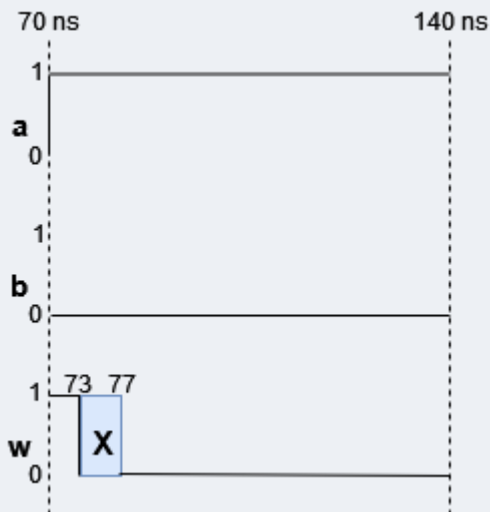

Figure 1.3
- **70 to 140 ns:** As “a” turns to 1, it will take 7 ns for the second pMOS to propagate Z to the output; also, it’ll take 4 ns for the nMOS to propagate 0 to the output. So, there won’t be any changes in the output for 4 ns, but after that, we’ll get a X-value on the output for 3 ns. Then the output will be 0. (fig. 1.3)